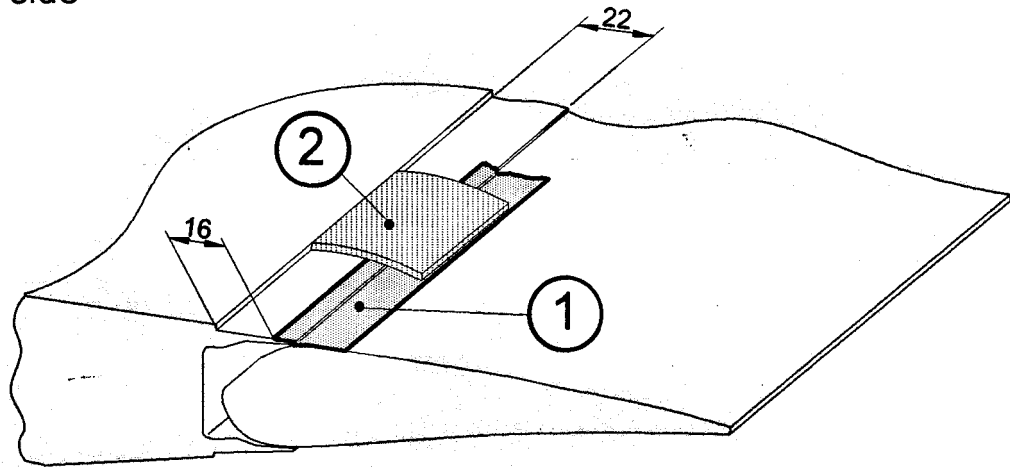

Fig. 2:
See Fig. 1 and Fig. 2
For the horizontal tail in addition (see Fig. 2), a protective adhesive tape (4) is applied over the abutment of the front edge of the elastic fairing strip (3) and the step in the stabilizer. This tape should be as thin and moisture proof as possible; an example of a suitable tape would be white Tesa film No.104, 25 mm wide.
Only for the stabilizer in addition (see Fig. 2), a protective adhesive tape (4) is applied over the abutment of the front edge of the elastic fairing strip (6) and the recessed step in the stabilizer.